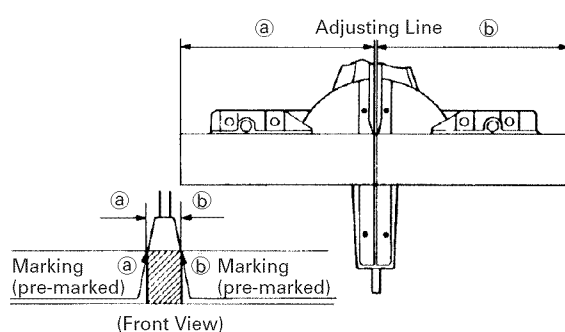

Fig. 27
- (1) As shown in Fig. 27 the width of the saw blade is the width of the cut. Therefore, slide the workpiece to the right (viewed from the operator's position) when length (b) is desired, or to the left when length (a) is desired.